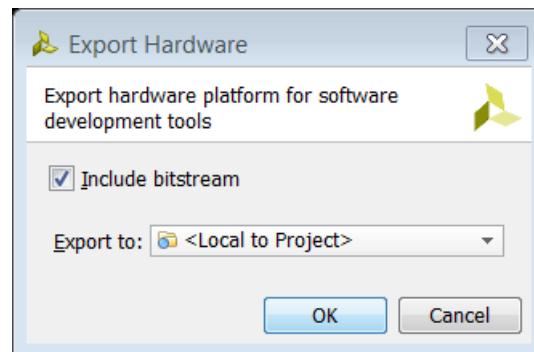

Figure 72: Export Hardware for SDK Dialog Box
2. In the Export Hardware for SDK dialog box, make sure that the **Include bitstream** check box is checked, and **Export to field** is set to **<Local to Project>**, as shown below in Figure 72.